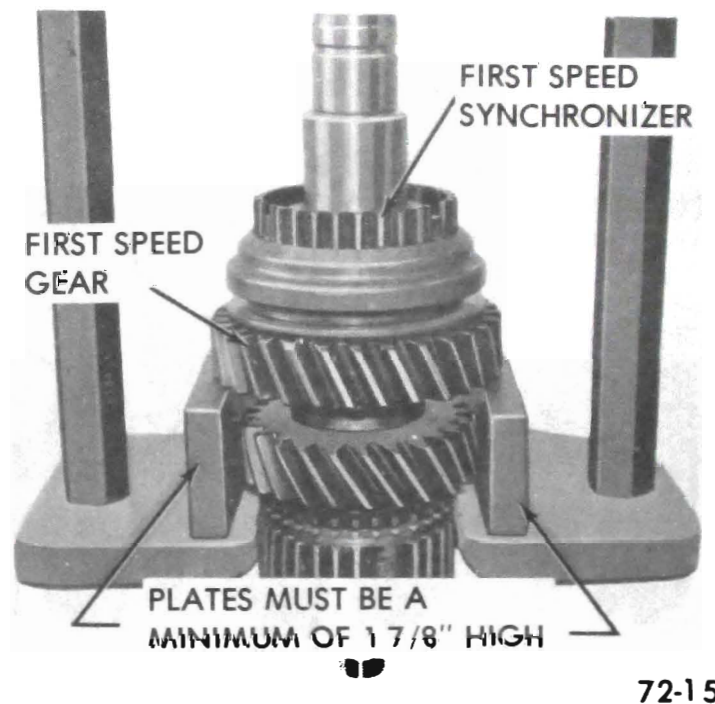

Figure 72-13 - Removing First Speed Synchronizer Assembly
6. Support first speed gear on press plate using two (2) pieces of stock 6x1-7/8x1/4. See Figure 72-13. Remove first speed synchronizer assembly and first speed gear.